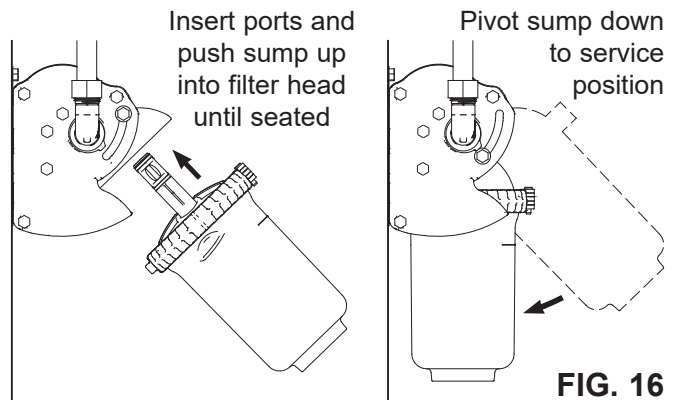

FIG. 16
NOTE: To avoid unintended water flow from the filter head, do not pivot filter head down to the service position without the sump and replacement filter cartridge in place, as shown in Figure 16.
- Insert the sump assembly into the head by guiding the filter ports into the corresponding receptacles in the head and pushing the sump upward until it stops (See Fig. 16).